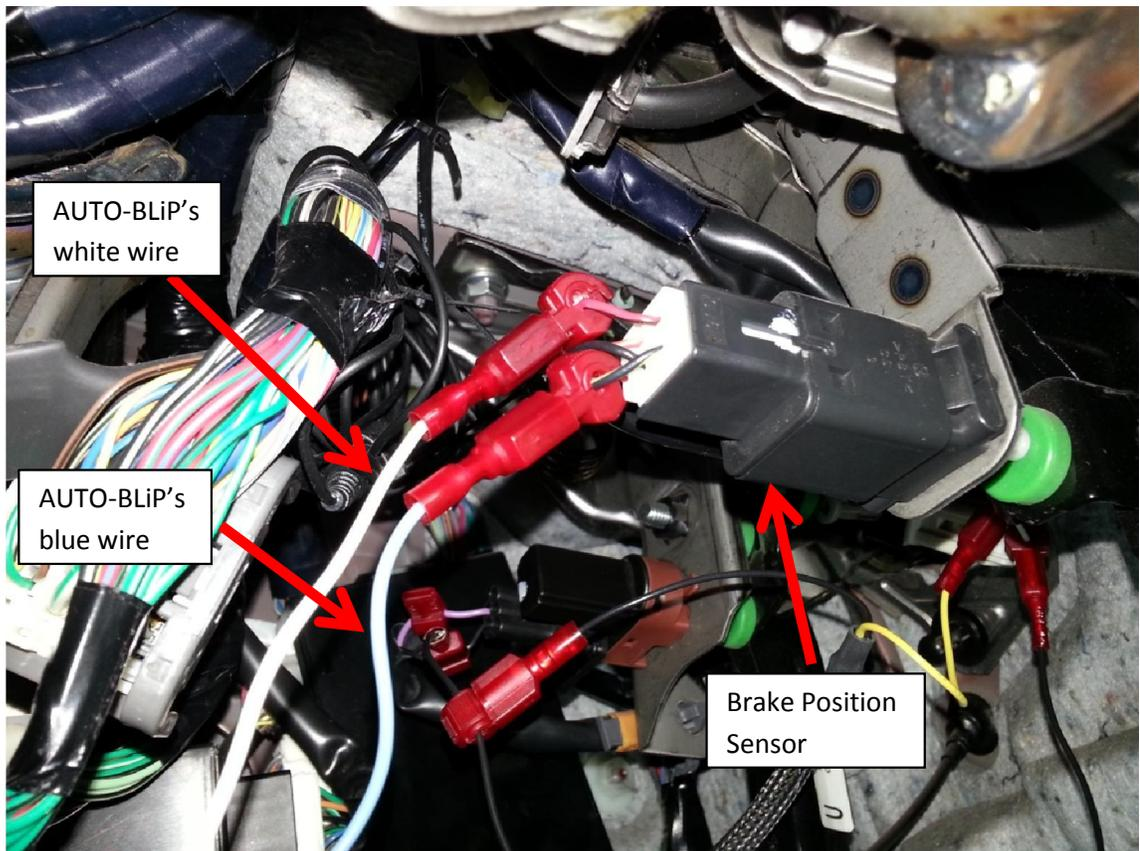

Figure 3 (Brake Sensor wire tabs placement)
5. Locate Brake Position Sensor (**Figure 3**)
6. Attach supplied wiretap to the **red/black** wire on the brake pedal sensor (**Figure 3**).
8. Attach supplied wiretap to the **black/yellow** wire on the brake pedal sensor (**Figure 3**).